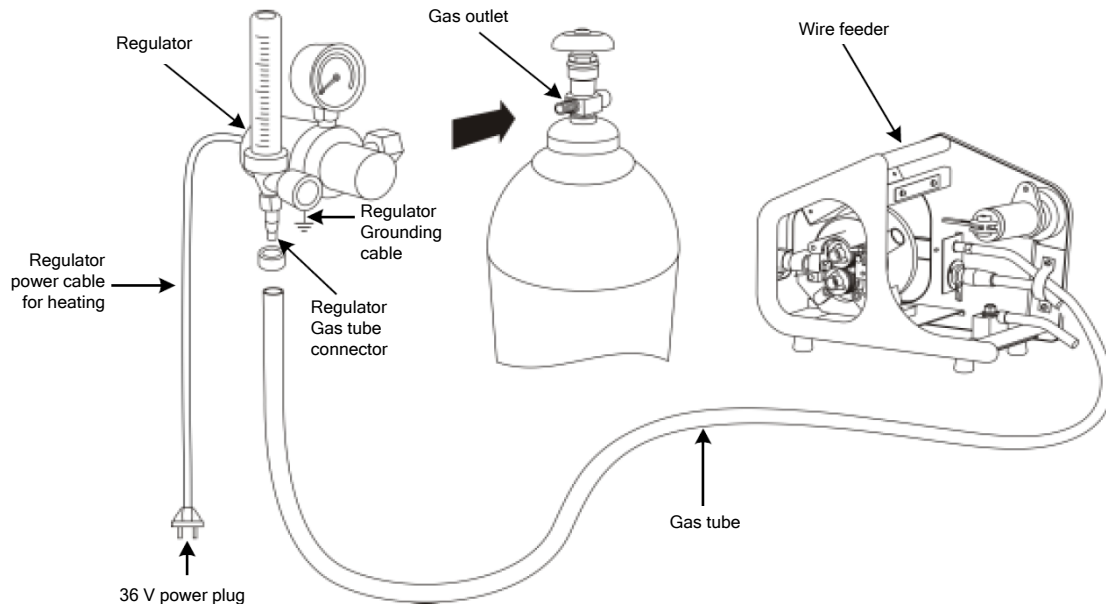

Figure 2-6 Schematic diagram of connecting the gas tube
4. Connect the grounding cable to implement reliable grounding. Figure 2-6 shows the cable connections.